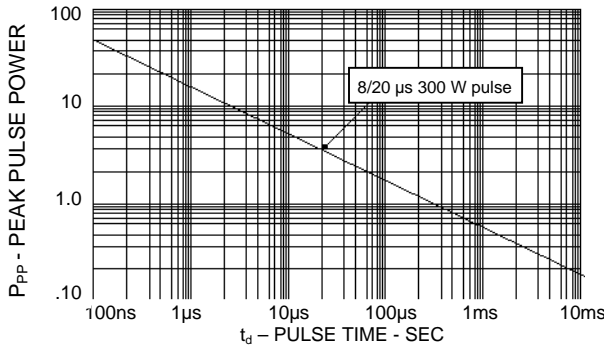

FIGURE 1
- SL03 thru SL24 have a Peak Pulse Power: 300 Watts (8/20 μsec, Figure 1)